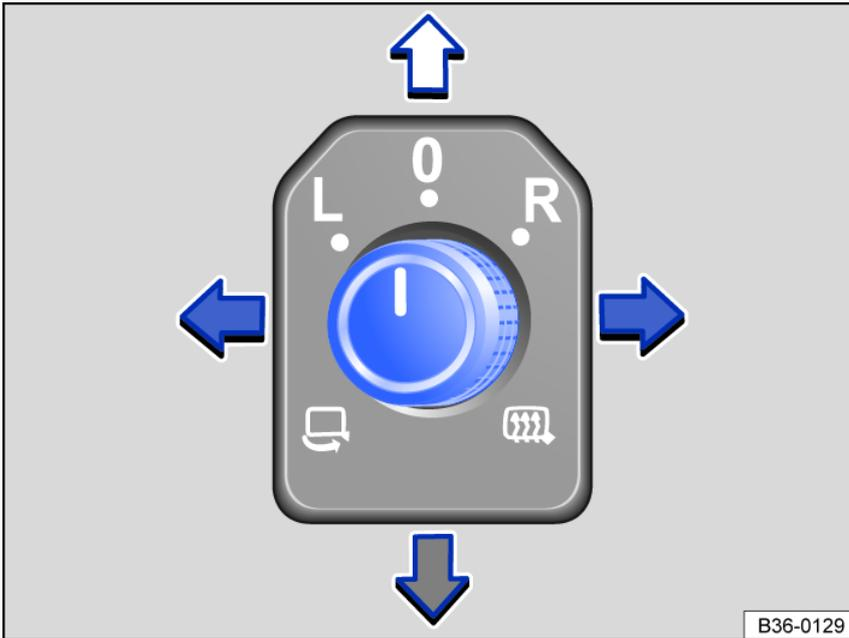

Fig. 104 In the driver door: knob for the exterior mirrors.
- Turn the knob in the driver's door to the desired symbol *fig. 104*.